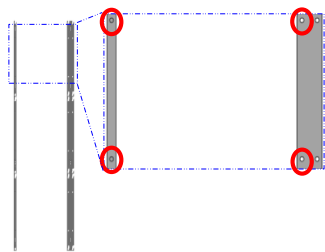

Fig1. Checking the holes
③ Install the ⑥ Bracket Middle.
- ※ First, check the holes into which to fix the ④ JIGs. (See Fig.1.)